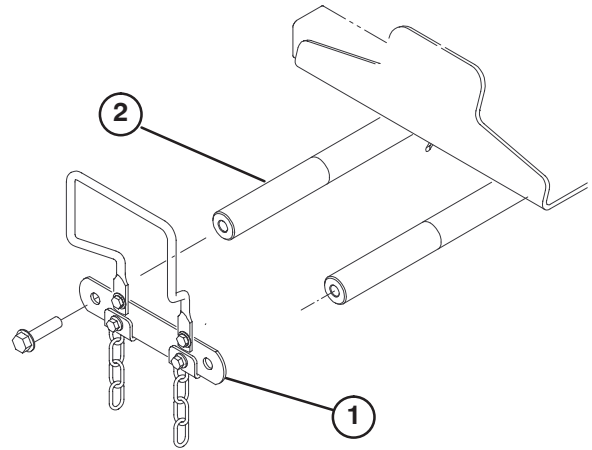

Figure 8
1. Remove (2) capscrews securing lift arm pivot shaft link to lift arm pivot shafts. Remove and retain pivot shaft link and capscrews (Fig. 8).